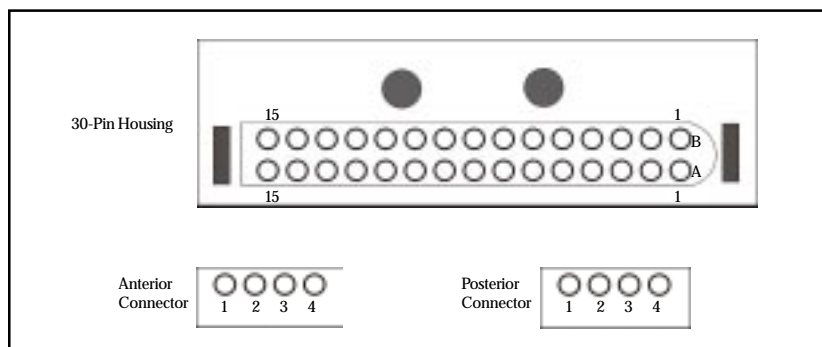

Figure 19: Pin layouts of 30-pin housing, anterior, and posterior connectors.
- Check for continuity in the output cable. Use a Digital Volt Meter (DVM). Separate the output cable from the anterior coil by pushing the buttons located on the sides of the cable housing and gently pulling the connector out of the socket. Follow the same procedure for the posterior coil. Make sure there is continuity between the appropriate pin at the 30-pin connector which plugs into the system and the connectors that plug into the anterior and posterior coils (*see Figure 19 and Table 11 for the correct pins*).